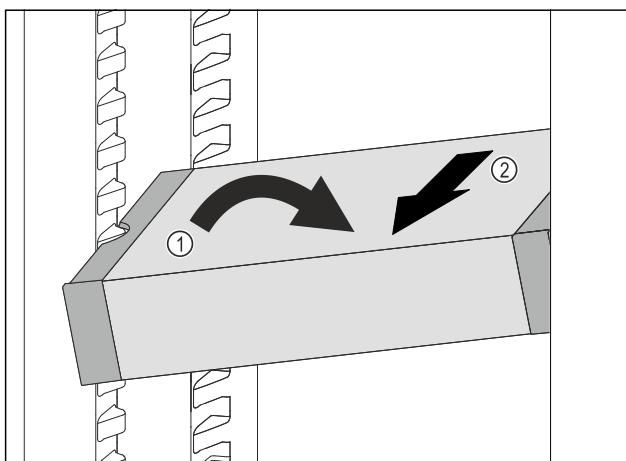

Fig. 105
- ▶ Set VarioSafe in refrigerator compartment at an angle. Fig. 105 (1)
- ▶ Take VarioSafe out to the front. Fig. 105 (2)